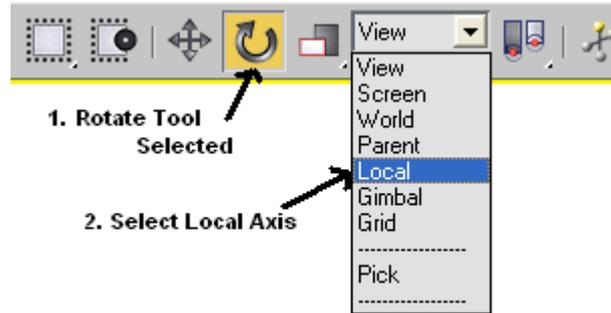

Figure11: Local Axis selection
- iv. Now first check the Local Rotation Axis of the Bone Fingers, by first selecting the rotate tool and then select the Local axis from the drop down list on Main Toolbar highlighted in Figure 11.